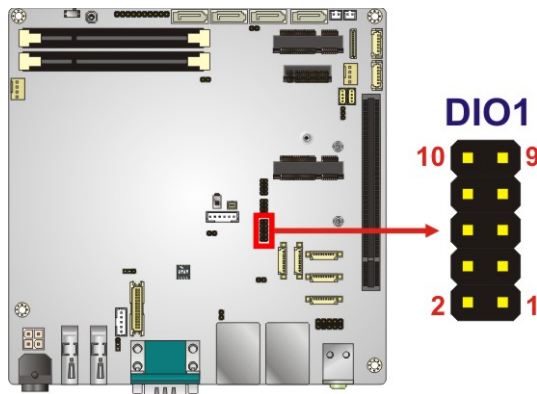

Figure 3-6: Digital I/O Connector Location
- CN Location:** See **Figure 3-6**